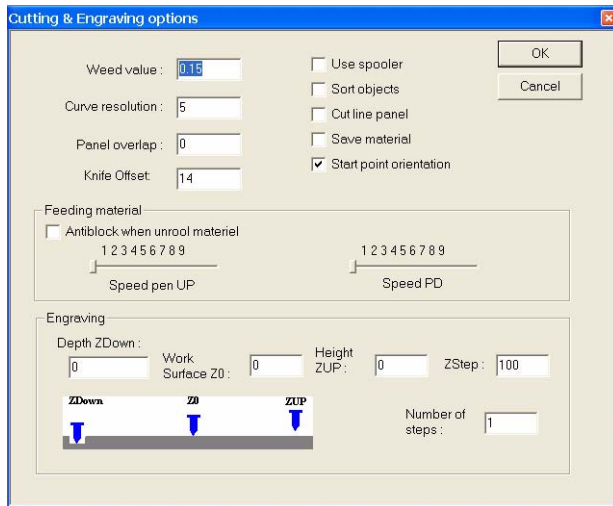

Figure 34
- 4** On the **Cutting control panel** window, click the **Options** button to open the **Cutting Options** window. See figure 34.
- 5** Set the Cutting Options to match those shown in figure 34.